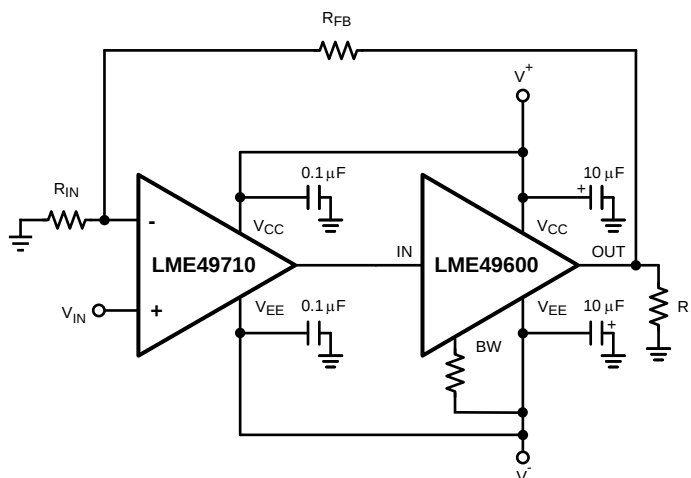

Figure 26. High Performance, High Fidelity LME49600 Audio Buffer Application
- (1) All voltages are measured with respect to ground, unless otherwise specified.
- (2) Absolute Maximum Ratings indicate limits beyond which damage to the device may occur. Operating Ratings indicate conditions for which the device is functional, but do not ensure specific performance limits. Electrical Characteristics state DC and AC electrical specifications under particular test conditions which ensure specific performance limits. This assumes that the device is within the Operating Ratings. Specifications are not ensured for parameters where no limit is given, however, the typical value is a good indication of device performance.
- (3) If Military/Aerospace specified devices are required, please contact the Texas Instruments Sales Office/ Distributors for availability and specifications.
- (4) Human body model, 100pF discharged through a 1.5kΩ resistor.
- (5) Machine Model, 220pF – 240pF discharged through all pins.
- (6) The maximum power dissipation must be derated at elevated temperatures and is dictated by T_{JMAX} , θ_{JA} , and the ambient temperature T_A . The maximum allowable power dissipation is $P_{DMAX} = (T_{JMAX} - T_A) / \theta_{JA}$ or the number given in Absolute Maximum Ratings, whichever is lower. For the LME49600, typical application (shown in Figure 26) with $V_{SUPPLY} = 30V$, $R_L = 32\Omega$, the total power dissipation is 1.9W. $\theta_{JA} = 20^\circ C/W$ for the TO-263 package mounted to 16in² 1oz copper surface heat sink area.